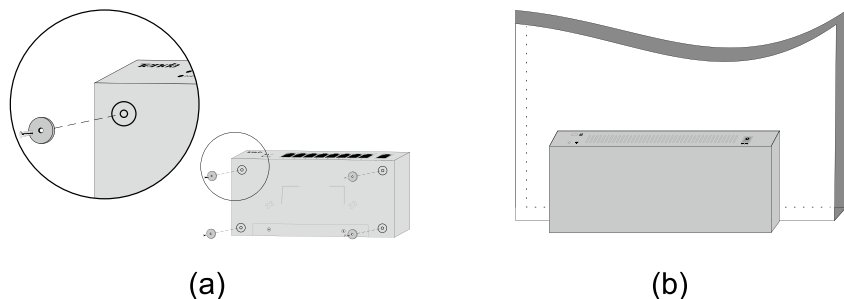

Figure 2-2 Magnet Installation
**Step 2:** Use screws to secure the magnets to the switch's housing, shown as Figure 2-2 (a);
**Step 3:** Press the switch (installed with magnets) in a proper way on a stable surface you select, shown as Figure 2-2 (b). When installing, be careful with your fingers.